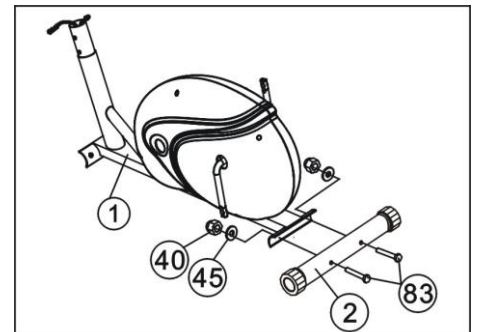

Figure 1
Attach the Rear stabilizer (2) to the Main frame (1) with two M8X55Bolts (83), φ8 Arc washers (45), and Cap nut (40). (Refer figure 1)